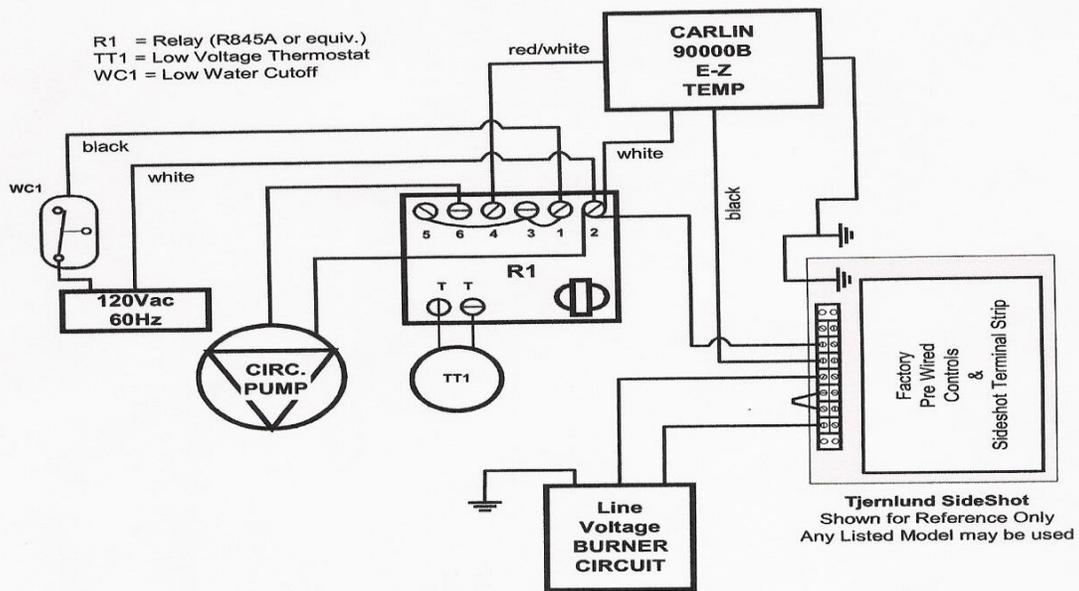

**Figure 5**
**Figure 5, figure 6, figure 7, and figure 8, show wiring diagrams for use of the Honeywell L7248 and the Carlin 90000B high limit controller along with installation for a powerventer application and the wiring of a priority indirect with a Taco SR503 or equivalent.**